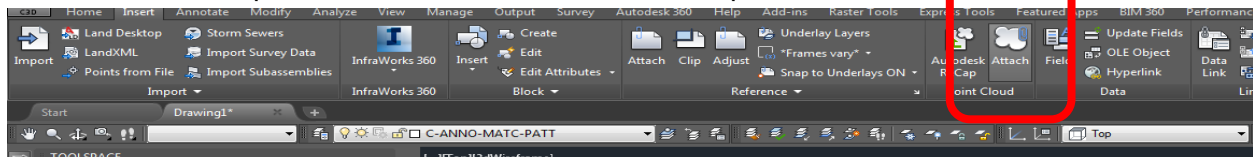

Figure 11: Attach Point Cloud in Civil 3D
- Select the “Insert” tab on the ribbon panel (Figure 11)